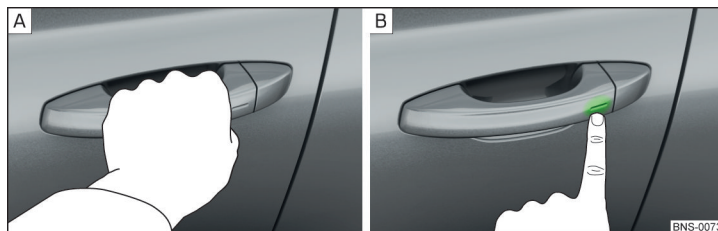

Fig. 49 Vehicle unlocking / vehicle locking
- ▶ Grip the door handle to **unlock** the vehicle » Fig. 49 - **A**.
- ▶ Touch the sensor on the door handle with your finger to **lock** » Fig. 49 - **B** the vehicle.
- Within 5 s, touch the sensor on the door handle with your finger » Fig. 49 on page 60 - . Deactivation is confirmed by a single flash of the direction indicators.